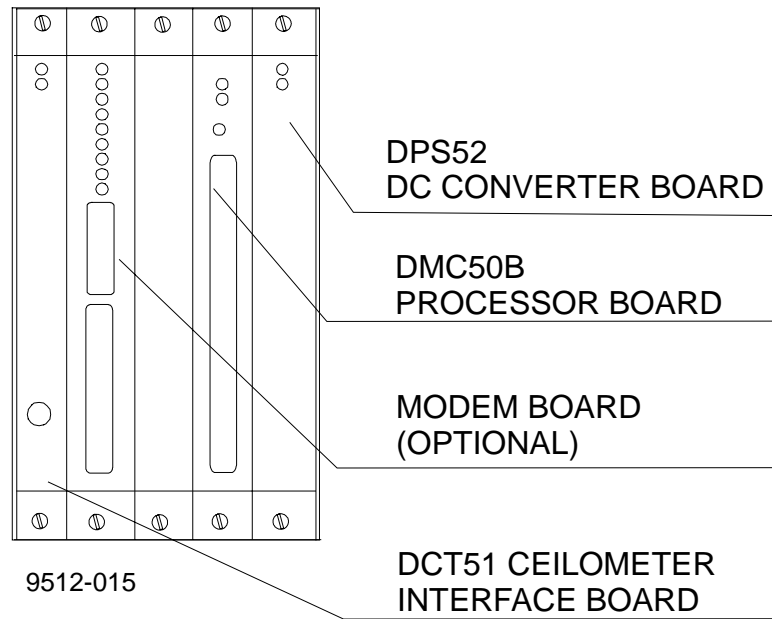

Figure 8-7 Boards of the DMF51 Board Frame
The boards of Board Frame DMF51 are shown in Figure 8-7. Replacement of boards does not require parameter settings except the Ceilometer Interface Board DCT51, the adjustments of which are described in Paragraph 8.8.2.1.
2. Detach the two screws at the upper and lower end of the board front panel (Figure 8-7). Because the board frame is tightly packed it is recommended to loosen the screws of the adjacent boards. The adjacent board may be partly pulled out to help the removal.
1. Plug the new board carefully into the corresponding slot (Figure 8-7).